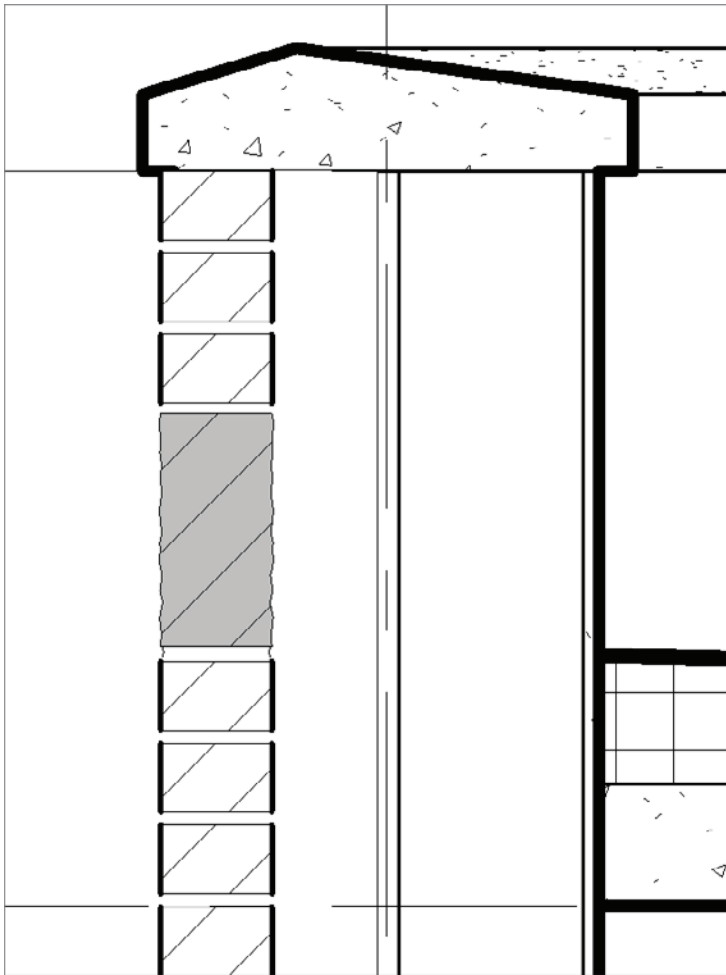

FIGURE 12.32 The new soldier brick in the model
23. Delete the extra brick. Your wall should look like figure 12.32.